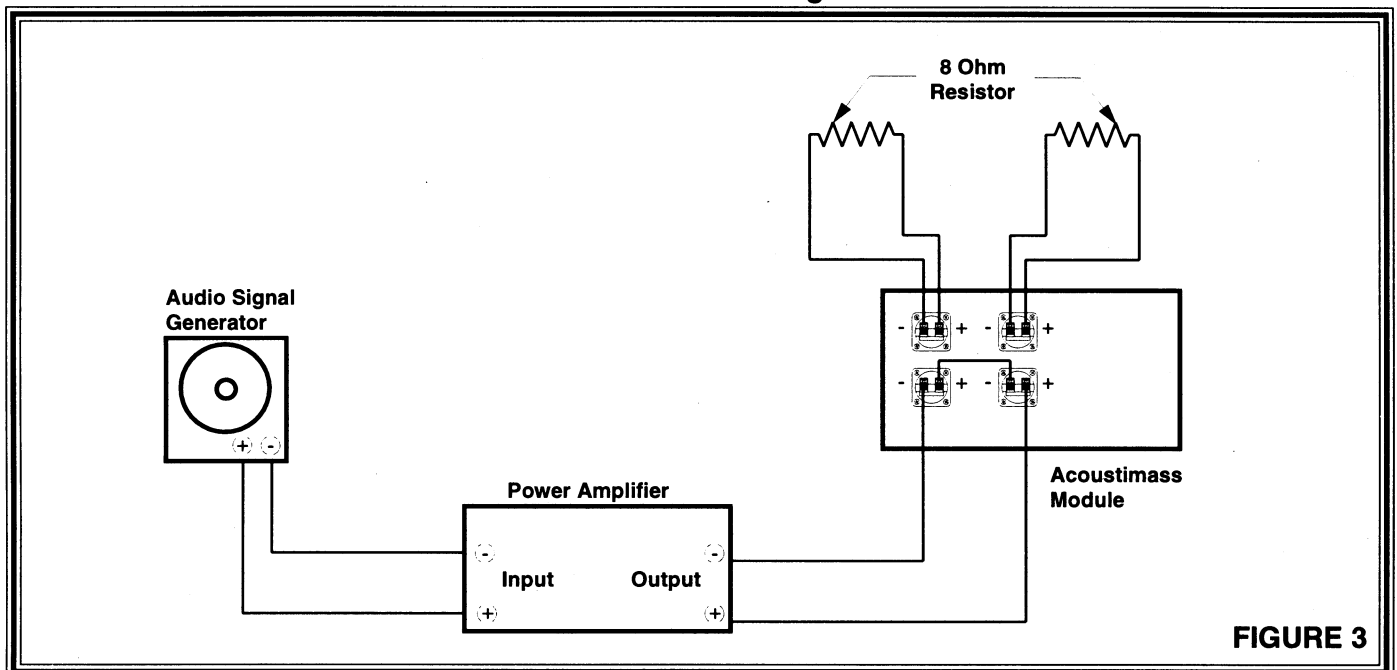

FIGURE 3
8. **Crossover Test:** Attach an 8Ω, 15 watt resistor to both left and right Acoustimass box output terminals in place of the cube array speakers, (see **Figure 3**).